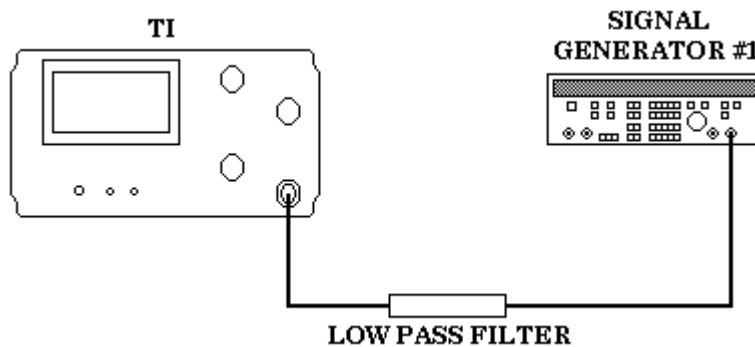

Figure 9. Harmonic distortion setup.
(1) Connect equipment as shown in figure 9 below.